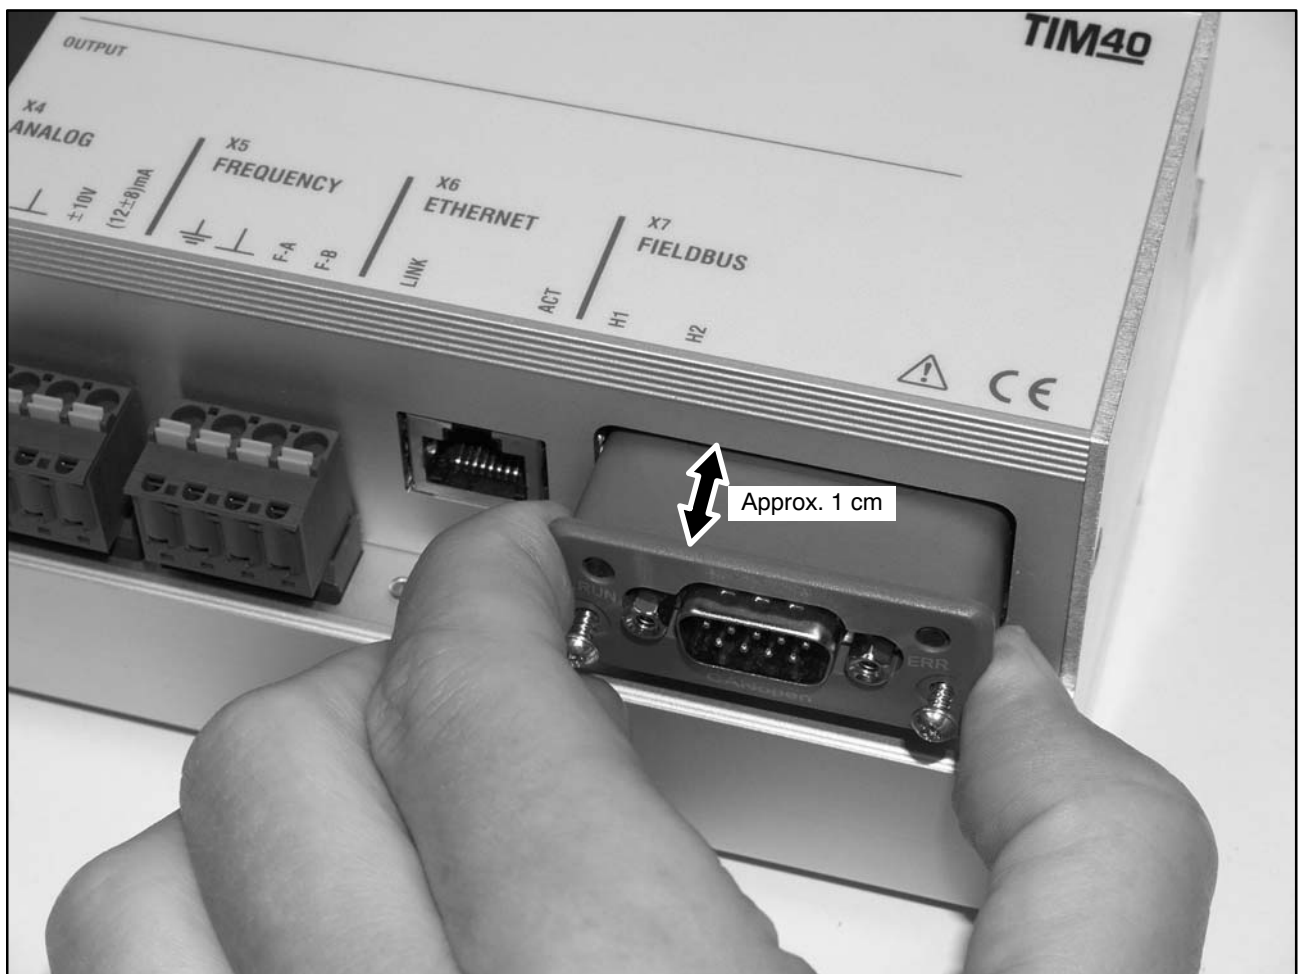

Fig.6.3: Mounting the module
- 3) Push the module, with the flat side facing down, carefully into the housing. When the module protrudes approx. 1 cm from the housing, you will feel a resistance (see Fig.6.3). The module will now be centered by the side grooves. Carefully push the module into the housing until it lies flush.